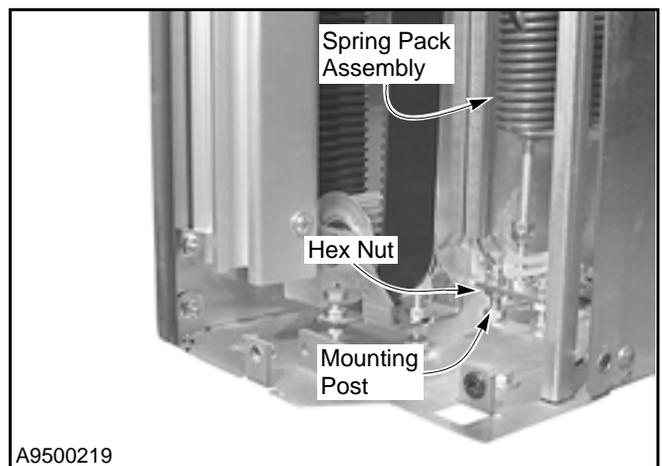

Figure 69
4. Disconnect the old spring pack assembly from the base plate. The spring pack is held in place by two hex nuts threaded onto a pair of mounting posts. (See Figure 69.)